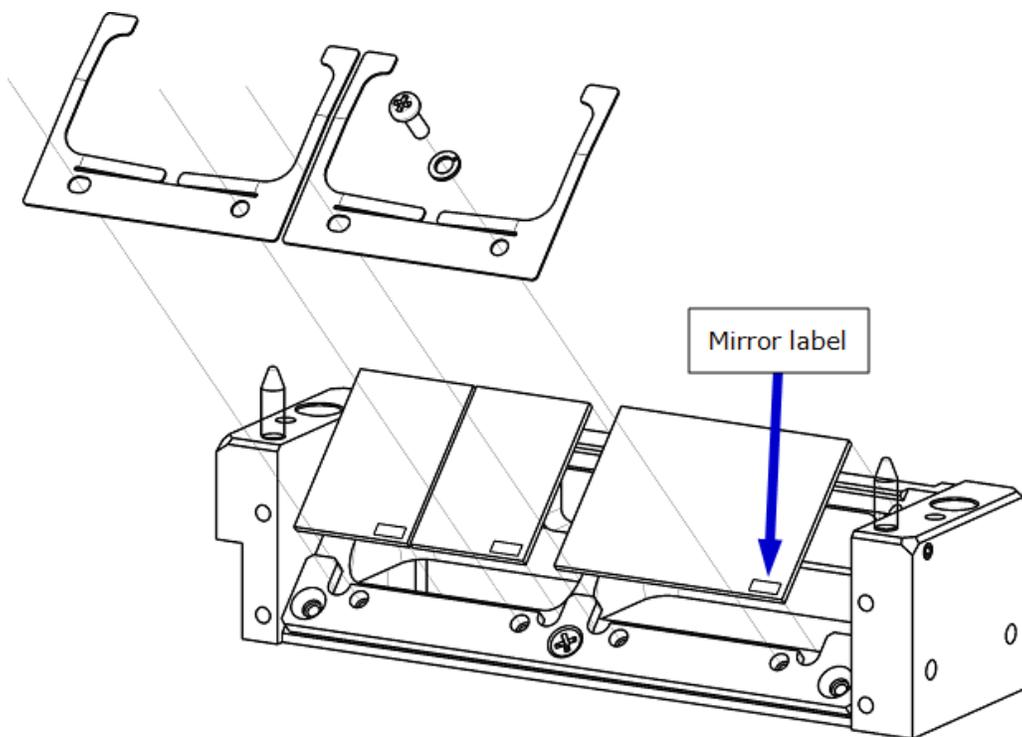

Figure 4-9: Mirror orientation; labels are face-up and readable
3. Use the screwdriver to remove the bracket that secures the mirrors (Figure 4-9). Set aside the screws. Lift the bracket away from the holder and set aside.
① The light shield fits the holder in only one way. Check its alignment when reattaching it to the mirror holder.